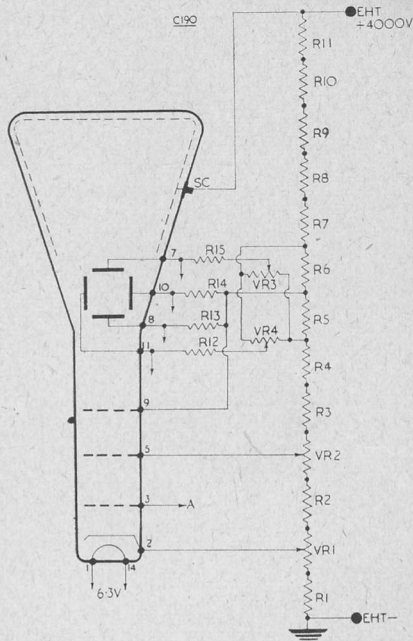

Fig. 2
at this point, with respect to the negative line. It can therefore be seen that these two potentials are arranged to be approximately equal, but of opposite polarity to each other, therefore they cancel out giving the effect of the cathode ray tube grid, reaching zero volts, with respect to its cathode. The vertical and horizontal deflector plates are brought out to pins 10 and 11, and 7 and 8 respectively, and the connections for correct operation are as follows: Pins 7 (CRT) via high voltage coupling capacitor to pin 5 on LINE AMPLIFIER (6SN7) valve-holder. Pin 8 (CRT) via H.V. capacitor to pin 2 LINE AMPLIFIER valve-holder. Pin 10 (CRT) via HV capacitor to pin 5 FRAME AMPLIFIER. Pin 11 (CRT) via H.V. capacitor to pin 2. FRAME AMPLIFIER. Just one word with reference to these amplifiers; the input from their respective time bases is on pin 4 (grid) in each case. R12-R15 are decoupling resistors of 1 M Ω each, half watt size being ample. R1-R7 are also half watt. In the case of R8-R11 the one watt variety are preferred due to the extra length between ends, thus reducing the possibility of "flash over." One the side of the CRT envelope, a connection will be seen and is referred to in Fig. 2 as "SC." This is the INTENSIFIER connection, and it goes to the final EHT voltage (4,000). The correct method of mounting is such that this connection (SC) is directly above, and may be viewed from the top.